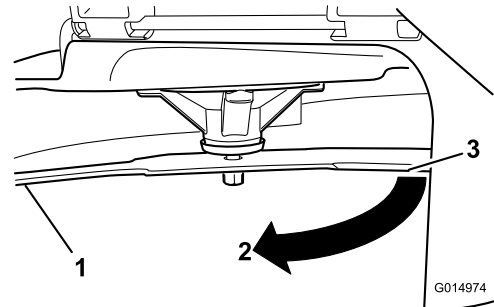

Figure 52
3. Measured distance between blade and the surface (A)
4. Rotate the same blade 180 degrees so that the opposing cutting edge is now in the same position (Figure 52).